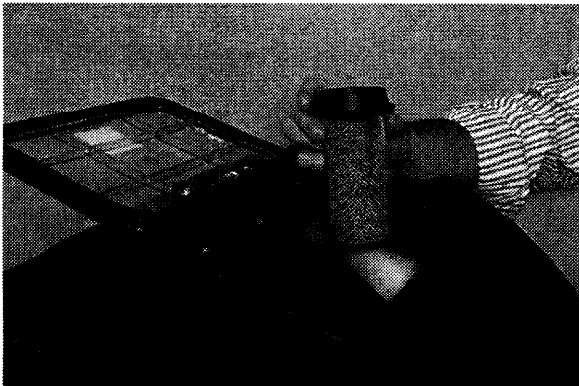

Figure 35
2. Remove and rinse float shut-off screen located in recovery tank (Fig. 35).